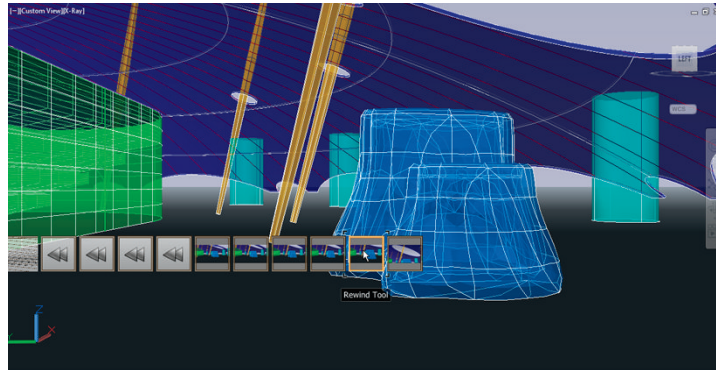

FIGURE 16.21 Interactively rewinding through navigation history
4. Position the cursor over the Rewind tool in the SteeringWheel's outer ring. Drag to the left to go backward in the history of movements made using the SteeringWheel (see Figure 16.21). Drag back to the point before you looked up. Press Esc to exit the SteeringWheel.